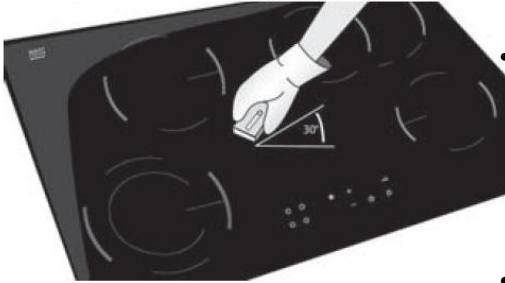

Fig. 8
- First, clean the surface as described above. If the soil still remains, carefully scrape soils with a metal razor blade scraper, holding the scraper an angle of 30 degree to the surface. (As shown in Fig. 8). Remove loosened soils with *ceramic glass cleaner* and buff surface clean.
- These types of soils must be removed immediately if spilled or melted onto the hob top. Permanent marks may occur if not removed immediately. After turning OFF the cooking zone, use a razor blade scraper or a metal spatula and scrape the soil from the hot surface. (As shown in Fig. 8) Allow the hob top to cool and use the same cleaning method for heavy or burned on soils.